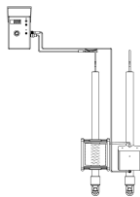

Figure 9 - Continuation test
- Connect the single-pole cable to the gauge's born and contact the two sticks' electrodes (see figure 9);